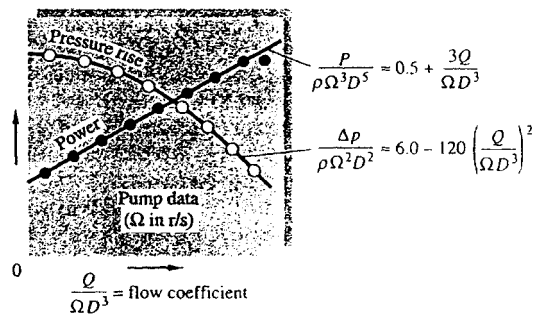

Fig. P5.61
**5.87** In Prob. 5.62 it was difficult to solve for  $\Omega$  because it appeared in both power and flow coefficients. Rescale the problem, using the data of Fig. P5.61, to make a plot of dimensionless power versus dimensionless rotation speed. Enter this plot directly to solve Prob. 5.62 for  $\Omega$ .
The plot is shown below, as computed from the expressions in Fig. P5.61.
**5.88** Modify Prob. 5.62 as follows: Let  $\Omega = 32 \text{ r/s}$  and  $Q = 24 \text{ m}^3/\text{h}$  for a geometrically similar pump. What is the maximum diameter if the power is not to exceed 340 W? Solve this problem by rescaling the data of Fig. P5.61 to make a plot of dimensionless power versus dimensionless diameter. Enter this plot directly to find the desired diameter.